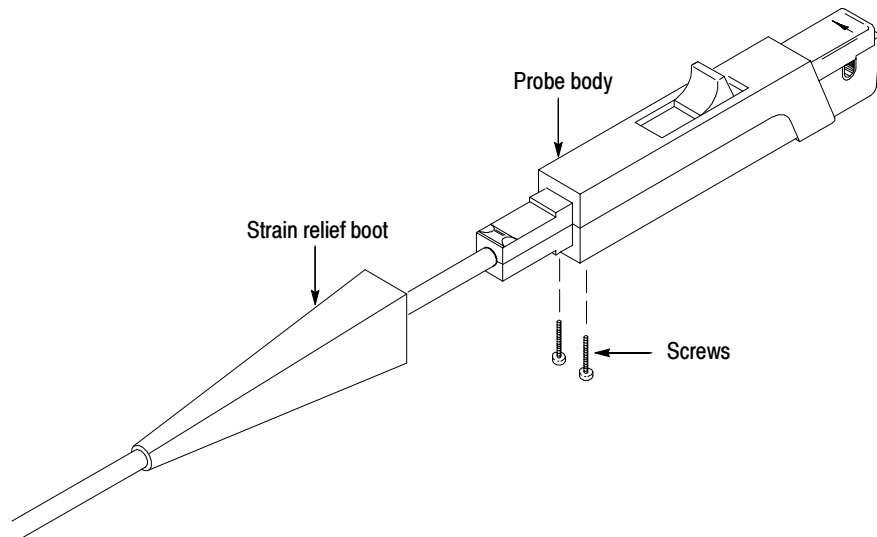

Figure 12: Removing the strain relief boot
1. Remove the two screws from the bottom of the probe and pull the strain relief boot back as shown in Figure 12.